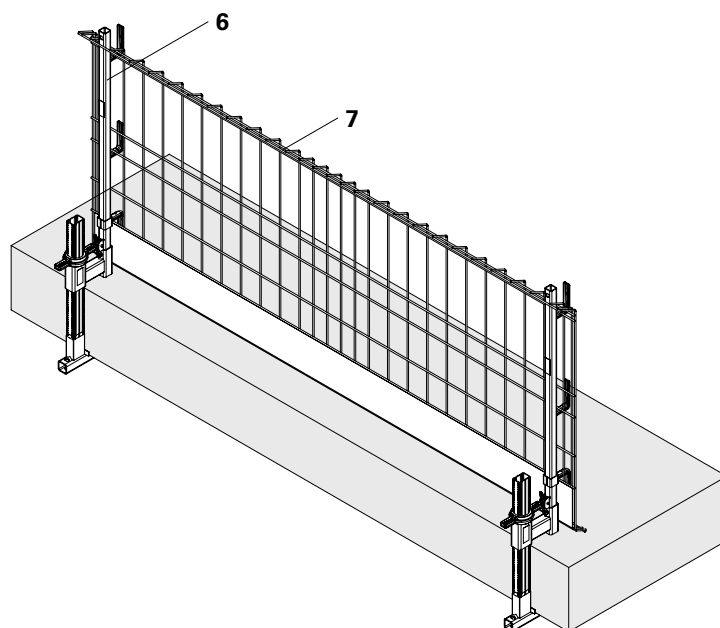

Fig. A2.08
4. Fit the side mesh barrier (**7**), see Section "A4 Lateral protection" on page 35. (Fig. A2.08)
Shown here: Uni Clamp PUC, Post PP and side mesh barrier secured to the concrete slab. (Fig. A2.08)